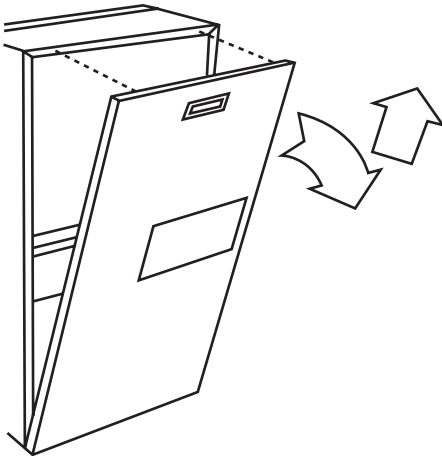

Fig. 10 - Remove Furnace Door
4. Remove main furnace door. (See Fig. 10.)
- Remove main furnace door. (See Fig. 10.)